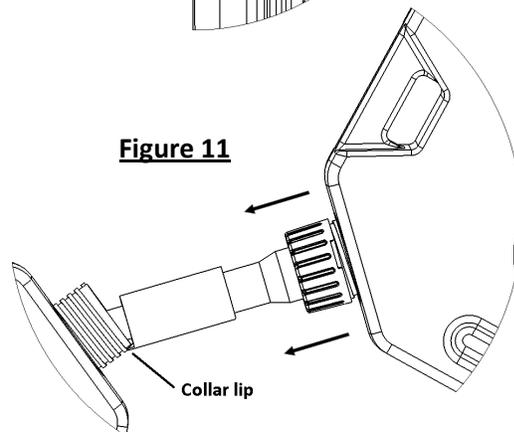

Figure 11
Step 4 – When ready to pour, catch the collar lip on the tank opening and push down to ensure that the collar slides back, allowing fuel to flow into the tank and air to flow into the Fuel Pack (see **Figure 11**).